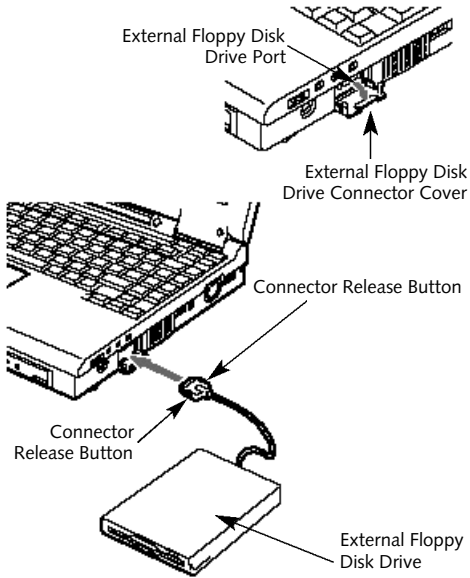

Figure 4-11 External Installation of a Floppy Disk Drive.
3. Open the external floppy disk drive port cover on the right side panel of your notebook (see Figure 4-11), by gently pulling on the left side of the cover and then tilting it down.
4. Align the connector of the external floppy disk drive with the connector towards the body of your notebook with the wide side of the connector up. (Figure 4-11.)
- 3. Squeeze together firmly on the release buttons on either side of the external floppy disk drive connector next to the body of your notebook.** *(Figure 4-11.)*